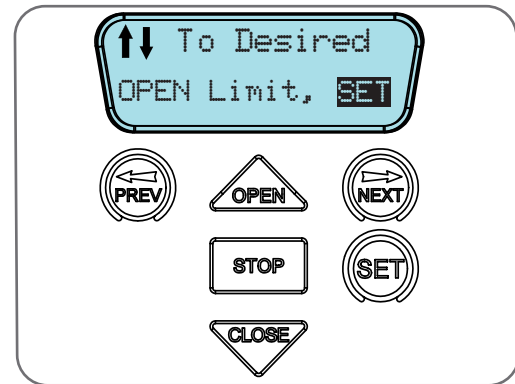

Fig 9.3
- c. When the Door is at the desired close position, press the SET button to record the close limit position. The display will change and the green open LED will start to flash (Fig. 9.3).